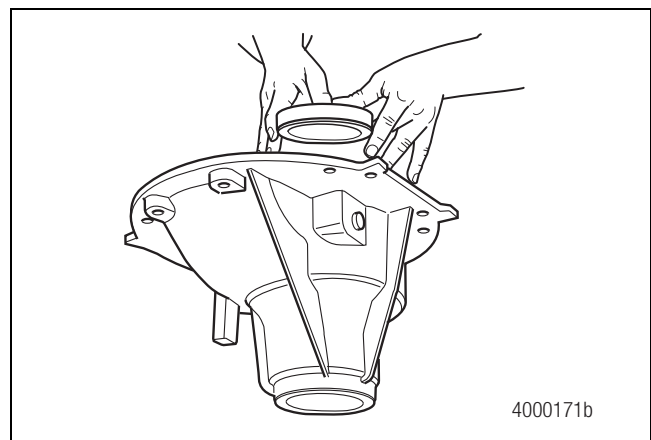

Figure 5.6
3. Position the inner bearing cup into the carrier. Figure 5.6. The bearing cup will hold the shims in place.